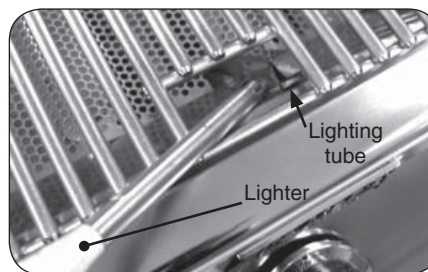

Fig. 21-2 - Manual lighting
**CAUTION:** Always wait five (5) minutes for gas to clear after any unsuccessful lighting attempt.
2. Insert either a burning long-barrel butane lighter or a burning long-stem match through the cooking grid opening to the top of the lighting tube. (Fig. 21-2). For backburners, hold the flame against the surface of the backburner.
4. If the burner does not light within five (5) seconds of turning the control knob, **immediately depress the knob and turn the valve to OFF**. **WAIT FIVE (5) MINUTES** before repeating steps 2 through 4 of the MANUAL LIGHTING instructions.